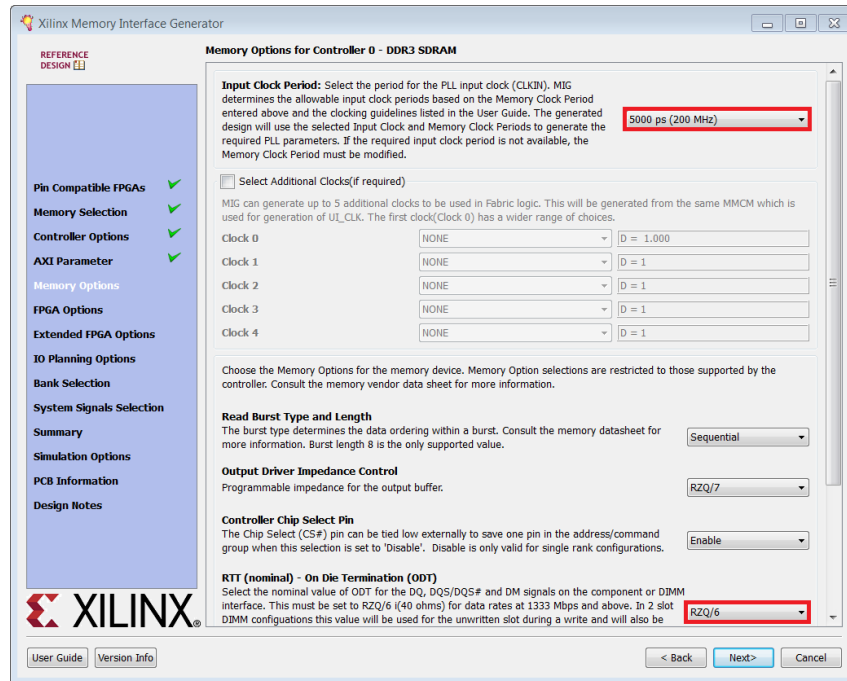

Figure 94: MIG Page: Memory Options
- i. In the MIG Memory Options page (Figure 94):